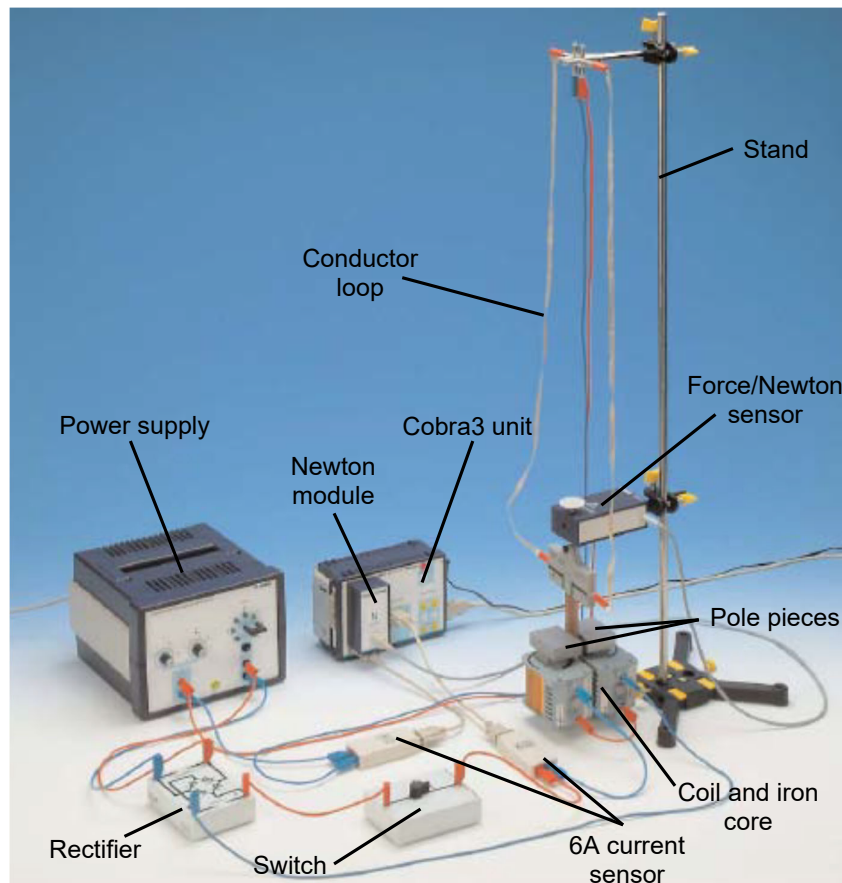
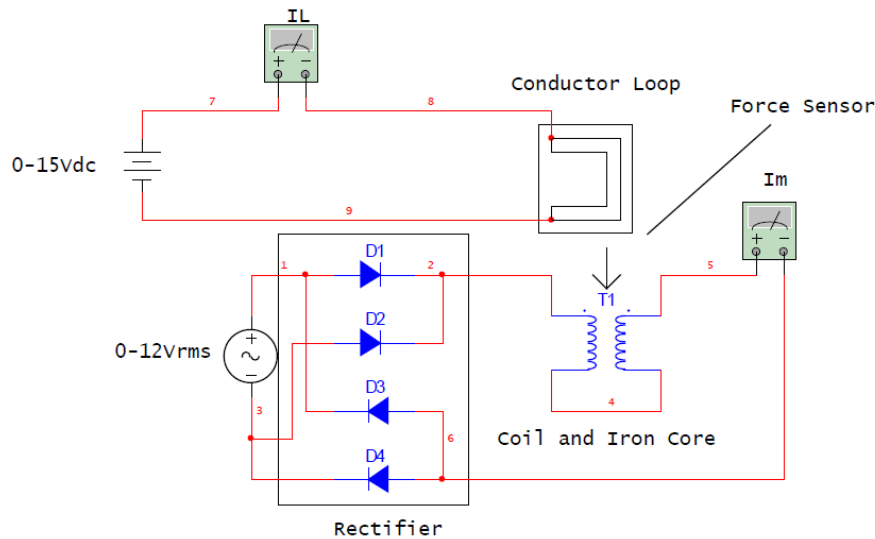

Figure 1: Equipment setup for Lorentz Force experiment
Figure 2: Rectifier connection diagram
1. Set up the equipment as shown in Figure 1 and Figure 2. Connect the coil and iron core in series with the rectifier and AC output of the power supply. Connect 6A current sensor to Analog In 2/S2 of the Cobra3 unit. Connect a switch between 6A current sensor and rectifier.